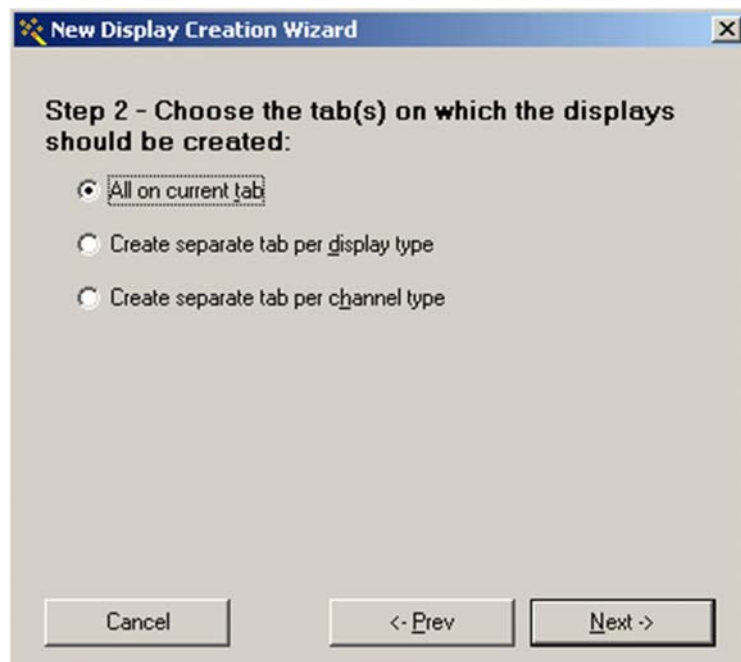

FIGURE 3-11: NEW DISPLAY CREATION WIZARD WINDOW – STEP 2
- 3) Select the display(s) location and click the **Next** button (see Figure 3-11).